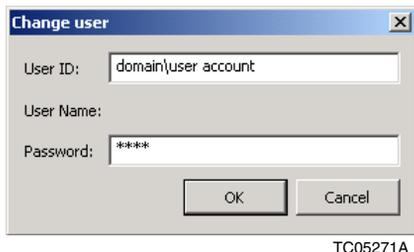

Figure 49. Logover
3. Select **Change User** from the pop up menu as shown in Figure 49.
2. Select **Change User** from the pop up menu as shown in Figure 49.